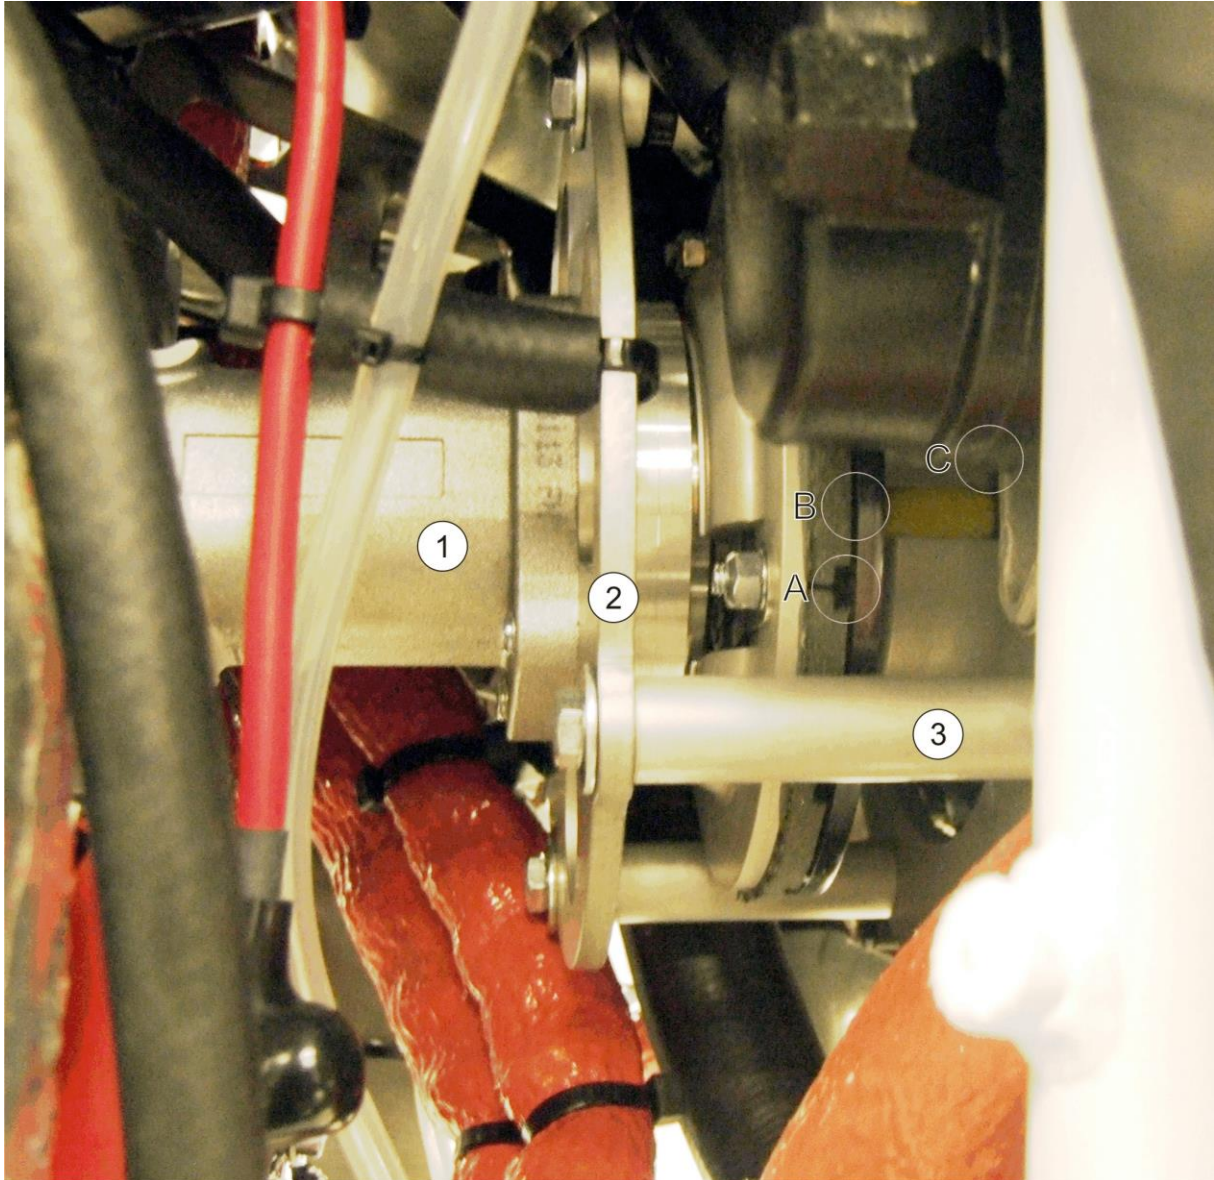

Fig. 1 - Pre-rotator clutch with attach ring
- 1 Check wear state of clutch lining. Wear mark (groove in the lining) must be recognizable. See Fig. 1, dimension A. Replace clutch if necessary.
- 2 Measure clearance between clutch lining and clutch plate. See Fig. 1, dimension B. Clearance must be between 1.0 - 1.5 mm. In case clearance is less than 1 mm or more than 1.5 mm contact AutoGyro customer support.
- 3 Measure clearance between inner (engine side) drive star disc and outer (clutch side) drive star claws. See Fig. 1, dimension C. Clearance must be between 1.0 - 1.5 mm. In case clearance is less than 1 mm or more than 1.5 mm contact AutoGyro customer support.